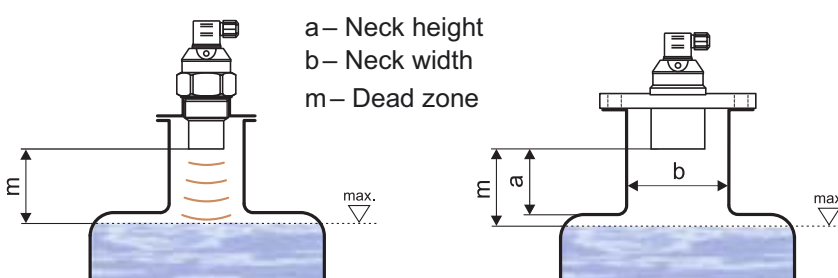

Fig. 4: Possible installation of the installation neck
- In case the maximum surface level in the tank interferes with the dead zone, the level meter has to be mounted into a higher **installation neck**. Subsequently, the tank can be filled nearly up to the maximum volume. The neck's inner surface has to be even and smooth (without edges and welded joints), the inner edge should be rounded in the position point where the ultrasonic waves leave the pipe. Choose the largest possible neck's diameter, but keep the neck's height as low as possible. Recommended dimensions of the neck are listed in Fig. 4.